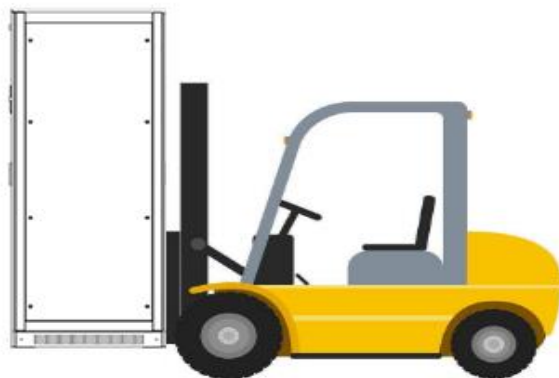

Figure 4.2 Remove the cabinet
Step1: Remove the cabinet from the delivery truck using a forklift truck or suitable lifting tool as per Figure 4.2.